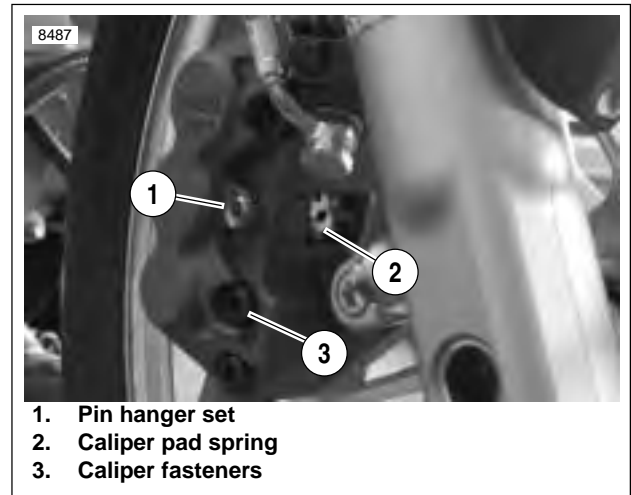

Figure 2-45. Pad Spring (Typical)
1. See Figure 2-45. Remove pin hanger set (1), brake pads and caliper pad spring (2).